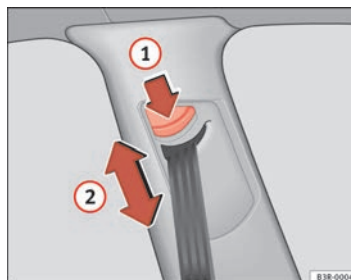

Fig. 16 Belt height adjustment - top guide fitting
- Press button ⇒ fig. 16  to adjust the belt height. ►
- Take hold of the top guide fitting and slide it up or down so that the shoulder part of the seat belt is positioned roughly midway over the shoulder, although **it must never rest against the neck** ⇒ page 25, fig. 16 ② ⇒ ⚠ in “Seat belt position” on page 23.